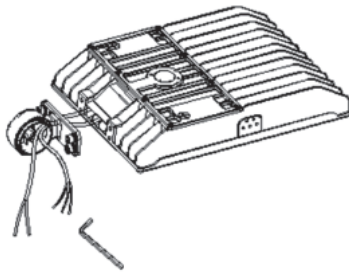

figure 4
1. Remove wiring cover from arm and separate knuckle from arm. (see fig 4 and 5)
2. Run leads from luminaire through knuckle and attach knuckle to head. (see fig 4)